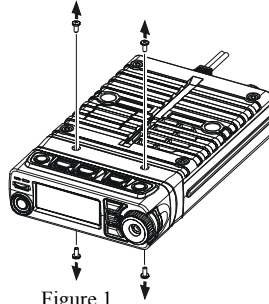

Figure 1
1. Remove the four screws securing the Front Panel and then remove the panel from the transceiver body (Figure 1).